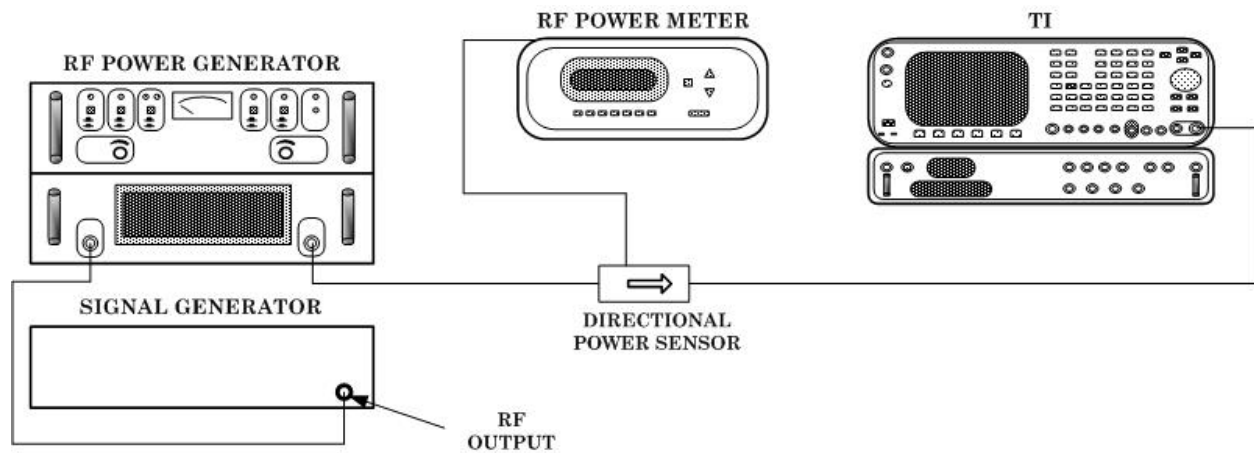

Figure 7. Power meter setup (1W - 200W range).
(11) Reduce signal generator and RF power amplifier outputs to minimum and disconnect equipment setup.
(12) Connect equipment as shown in figure 7.
(18) Connect equipment as shown in figure 7.
(28) Adjust signal generator frequency to 85 MHz. Adjust signal generator and RF power amplifier output until measuring receiver indicates exactly 33 dB minus 10 dB attenuator (fixed) insertion loss.
(29) Disconnect RF power amplifier and 10 dB attenuator (fixed) from measuring receiver. Connect RF power amplifier **OUTPUT** to TI **T/R**.
(30) Press **Range (F1)** key repeatedly to select **2 W** range, and press **DATA ENTRY ENTER** key.
(31) Press key sequence listed in (a) through (e) below:
(32) Press **Range (F1)** (power meter range mode) repeatedly to select **200 W** range and press **DATA ENTRY ENTER** (200 W range) key.
(33) Connect equipment as shown in figure 7.
(34) Adjust signal generator frequency to 200 MHz. Adjust signal generator and RF power amplifier output to 50W.
(35) Press key sequence listed in (a) through (f) below:
(36) Press **MODE RF GEN** (MODE RF GEN Display); when prompted for backup data, press **SHIFT** and **Y** keys (Backup Cal Data ? y/n).
(37) Disconnect all test equipment.